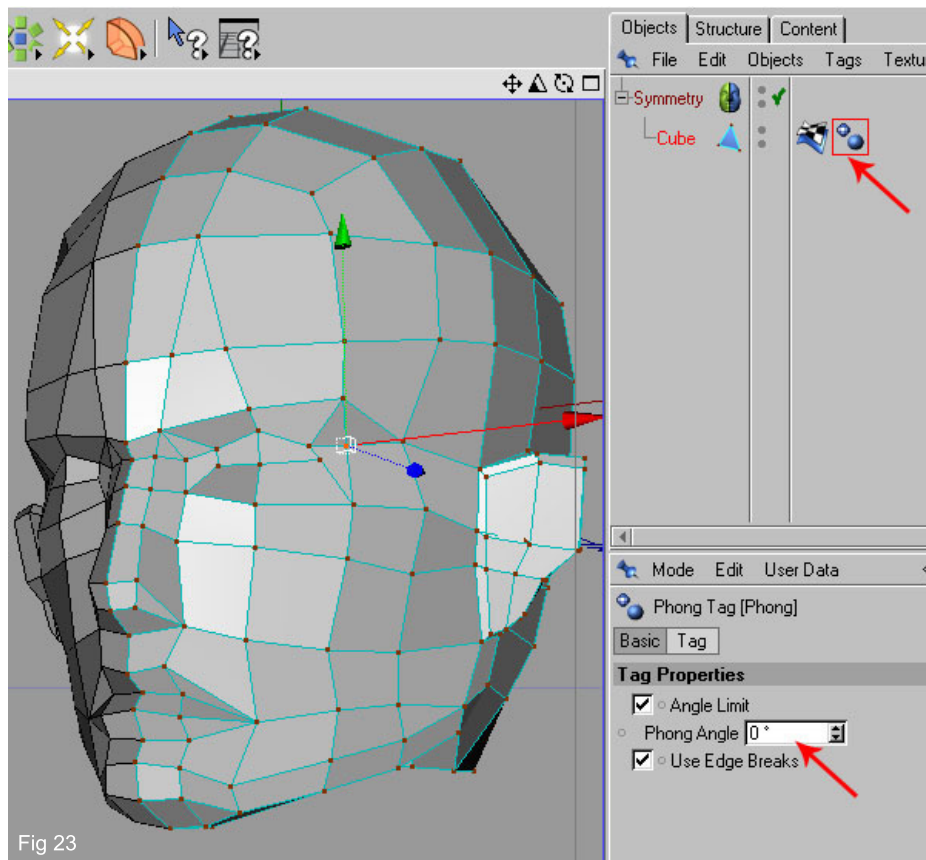

Fig 23
23. Check out the mesh and make any adjustments it needs to obtain a nice shaped head. You also may change the "Phong Angle", select so the Phong Tag and change the Angle Limit in its properties. Fig 23